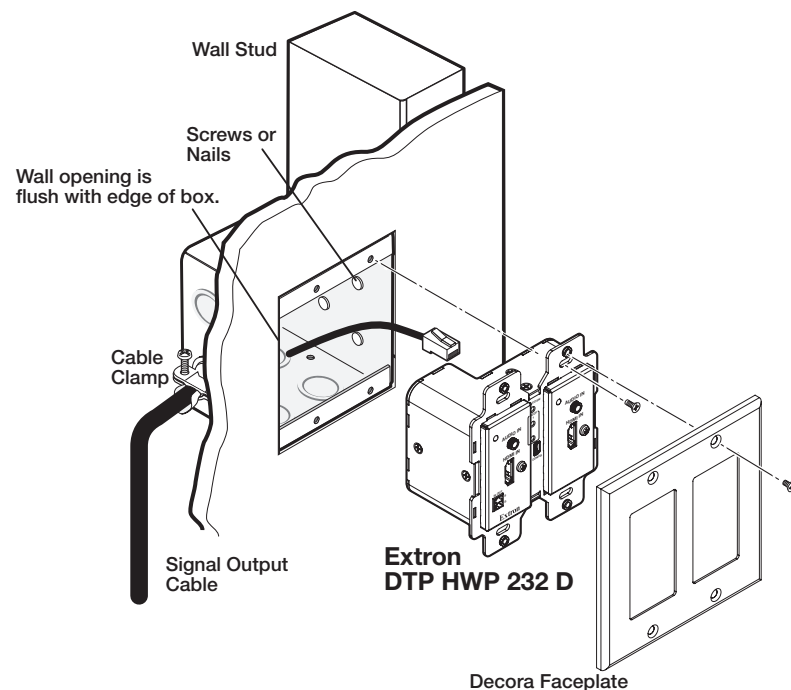

Figure 2. Installing the Wall Box and Mounting the Unit
5. Secure the wall box with nails or screws, leaving the front edge flush with the outer wall or furniture surface (see figure 2).
2. Mount the transmitter into the wall box or mud ring and attach the supplied Decora faceplate to the unit (see figure 2 on page 5).